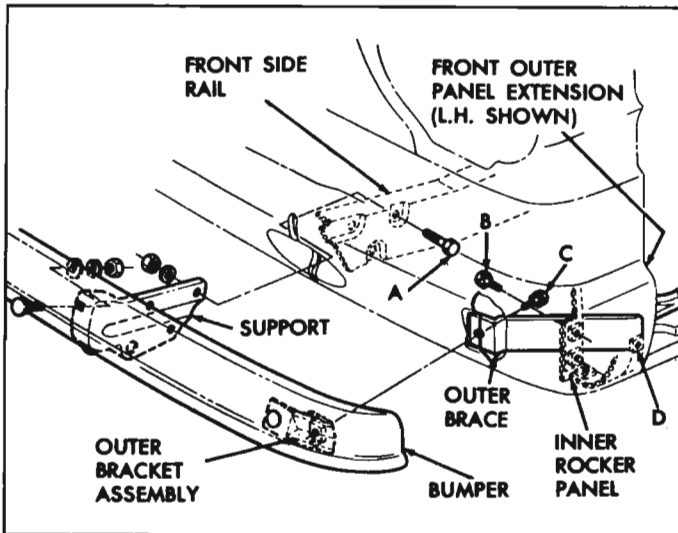

Fig. 10-31a—Front Bumper Installation
1. Remove bolt ("C", fig. 10-31a) at the left and right bumper outer brace.
2. Remove three bolts, lockwashers and nuts ("A", fig. 10-31a), connecting left and right bumper supports to front side rails.
4. To remove outer brace, remove two bolts ("B", fig. 10-31a) and one bolt at ("D", fig. 10-31a).